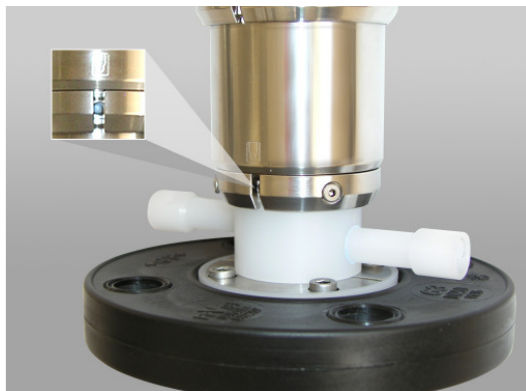

Fig. 9: Inspection window on lower housing clamp
5. Loosen lower housing cramp screws (Fig. 9).